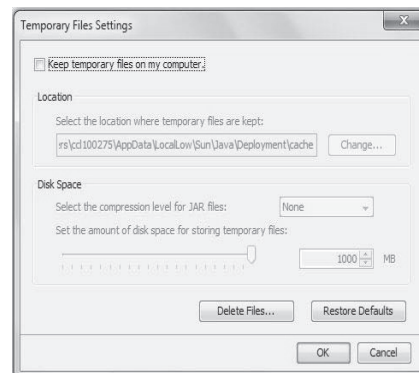

Fig. 82 — Temporary File Settings
- Temporary internet files: In the Java Control Panel, click Settings in the Temporary Internet Files section. Be sure the setting Keep temporary files on my computer is unchecked (clear). See Fig. 82.